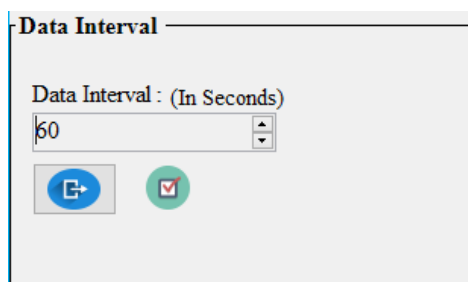
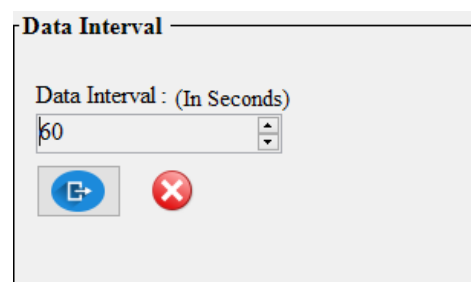

Figure 31
Figure 32
Figure 31 illustrates as follows
- If all settings are done correctly then right check will appear on window or if setting is not done properly, then wrong check will appear on window as shown in Figure 31 & Figure 32